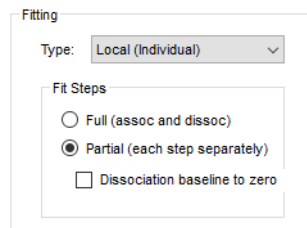

Figure 5-28: Selecting Local (Individual) Fit
1. In the Fitting box in the Fitting Parameters window, select **Local (Individual)** as the Type (Figure 5-28):